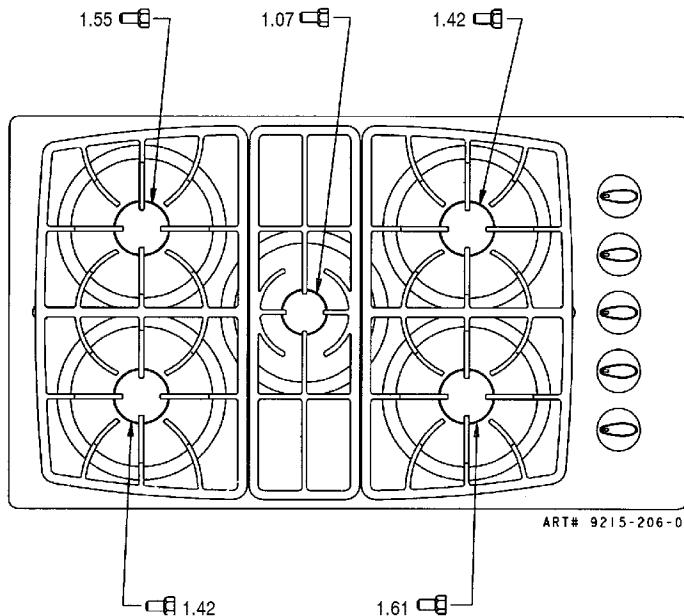

FIGURE 14
3. For Step 4: Locate the brass natural gas orifice spuds that were originally installed in this appliance before its conversion for use with LP gas. Observe the number on each of the spuds and note the correct burner location for each spud as shown in figures 14 and 15.